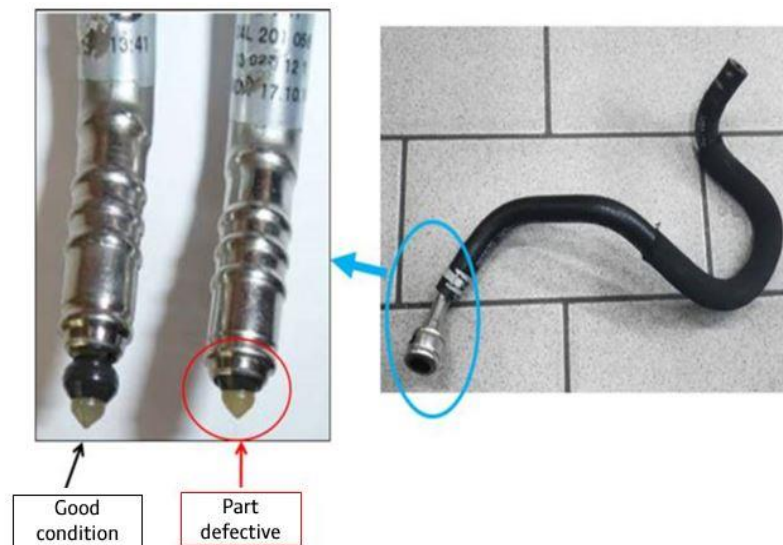

Figure 1. Good condition part or defective part.
1. Check the fuel line 06M 133 986 AD (Quick Connector) for a defect. Compare with Figure 1.